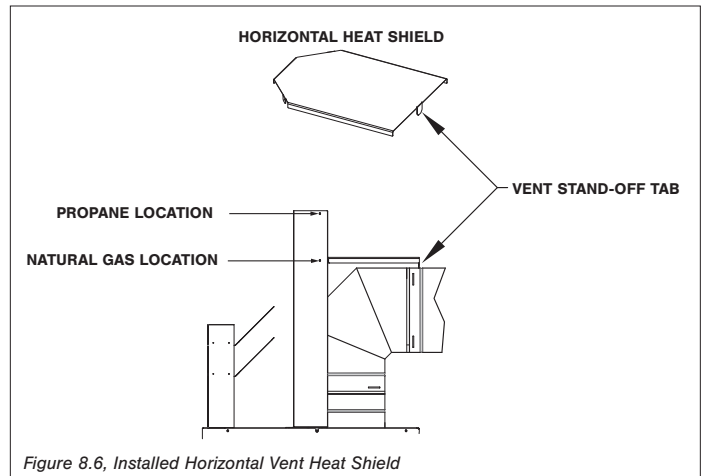

Figure 8.6, Installed Horizontal Vent Heat Shield
1. Bend perforation on the (3) hand-tabs down on the horizontal vent heat shield.
2. Locate (3) screw holes on the vertical vent heat shield. There are (2) sets of screws holes, allowing for either natural gas or propane minimum horizontal venting. See Figure 8.6.
3. Align the (3) slots on horizontal vent heat shield tabs to the corresponding (3) screws holes on the vertical vent heat shield necessary for your installation.